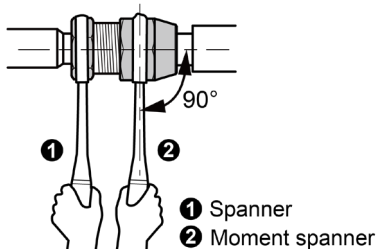

Figure 3-2 Fastening the connecting pipe
4. Remove the sealing caps of the connecting pipe. Align the center of the bell mouth with the pipe joint and valve cone, and screw up the conical nut with your hand and then with a wrench, as shown in Figure 3-2.